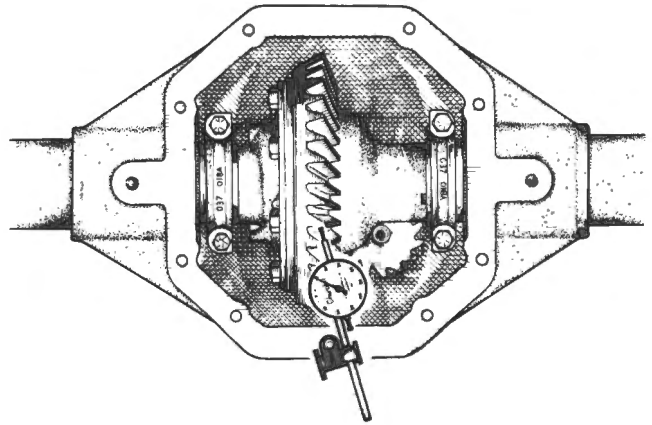

Fig. O-7
- 5 Using a dial indicator gauge measure the crown wheel backlash at three equi-spaced positions. Backlash is the average value of these readings. Fig. O-7.